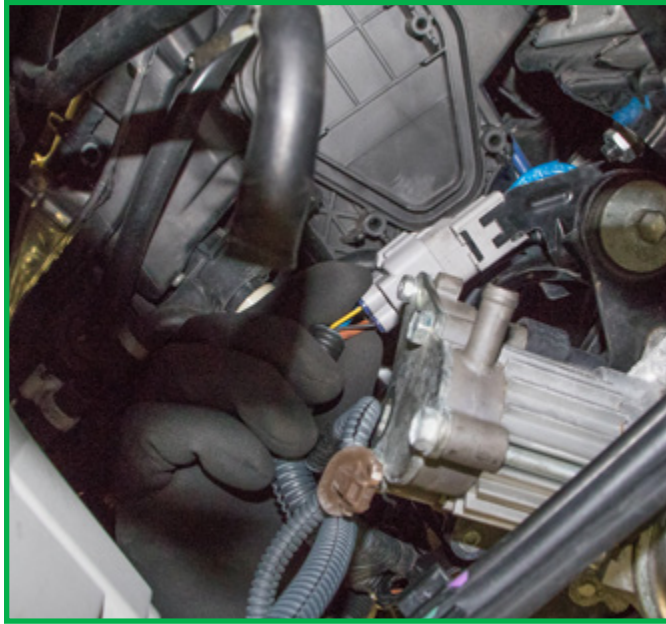

FIGURE 3
5. Remove the electrical connector. (Figure 3)